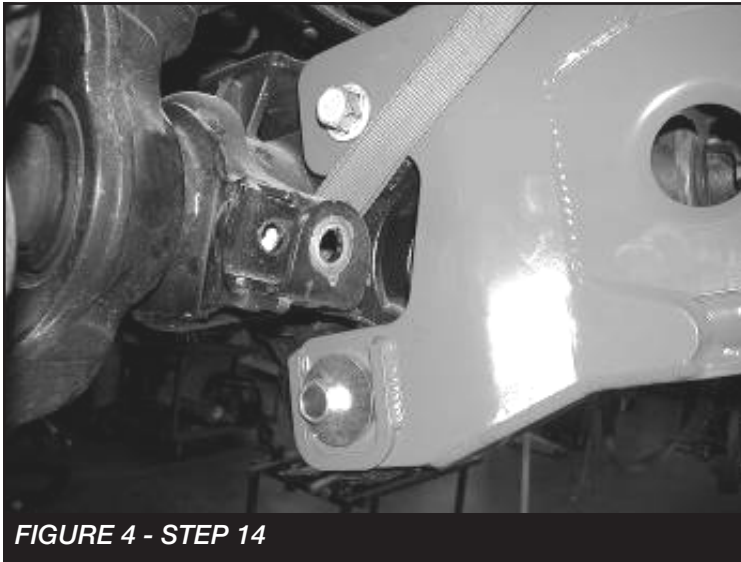

FIGURE 4 - STEP 14
14. Working from the driver side of the truck, Install FT31117, driver side radius arm onto the truck. First attach the radius arm to the axle mounts using the factory upper pivot bolt and nut and the supplied alignment cam on the lower pivot. Then attach the rear pivot to the factory mount on the frame and use the factory bolt. Leave loose at this time. **SEE FIGURE 4**